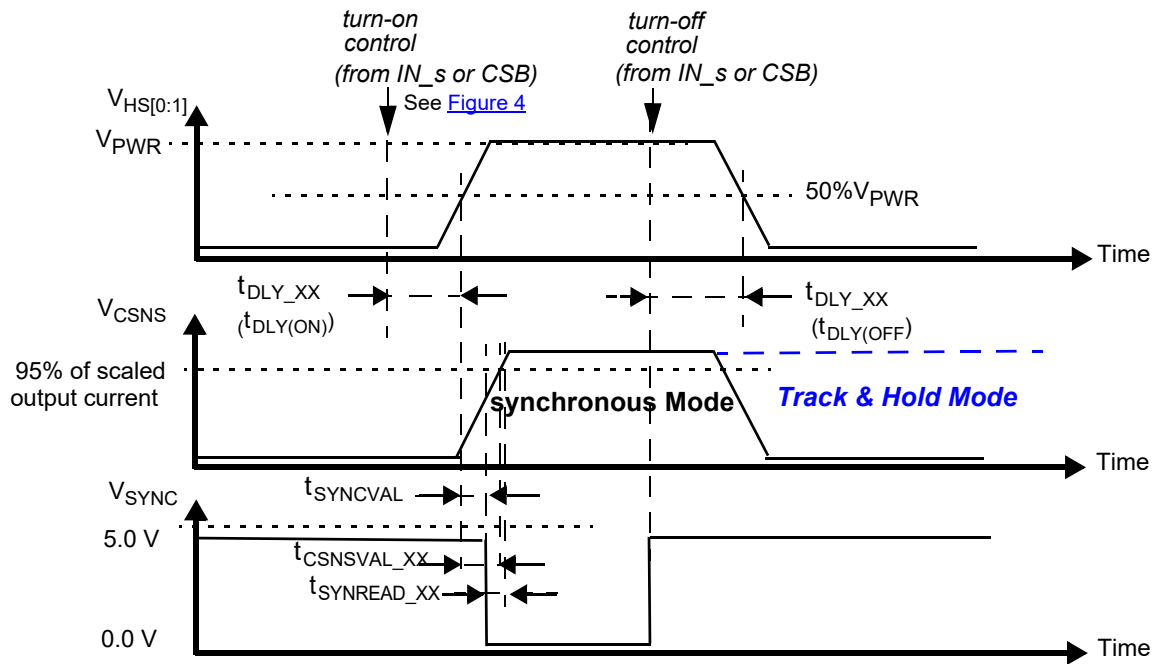

Figure 9. Synchronous and Track & Hold current sensing modes: associated delay and settling time
29. Time required to switch off the channel after detection of overtemperature (OT), overcurrent (OC), SC or UV error (time measured between start of the negative edge on the FSB pin and the falling edge on the output voltage until $V(\text{HS}[0:1]) = 50\%$ of V_{PWR}).
30. Settling time ($= t_{CSNSVAL_XX}$), SYNC output signal delay ($= t_{SYNCVAL_XX}$) and Read-out delay ($= t_{SYNREAD_XX}$) are defined for a stepped load current ($100\text{ mA} < I(\text{LOAD}) < I_{OCLX_A}$ FOR $\text{CSNS_RATIO_S} = 1$, AND $300\text{ mA} < I(\text{LOAD}) < I_{OCLX_A_0}$ FOR $\text{CSNS_RATIO_S} = 0$). (see Figure 9 and Output current monitoring \(CSNS\))
The CS pin allows independent current monitoring of channel 0 or channel 1 up to the steady state overcurrent threshold. It can also be used to sense the device temperature. The different functions are selected by setting bits CSNS1_en and CSNS0_en to the appropriate value (Table 23). When the CSNS pin is sensed during switch-off in the (optional) Track & Hold mode (see Figure 9), it outputs the scaled value of the load current as it was just before turn-Off. When several devices share the same pull-down resistor, the CSNS pins of devices the current of which is not monitored must be tri-stated. This is accomplished by setting CSNS0_en = 0 and CSNS1_en = 0 in the GCR register (Table 10). Settling time ($t_{CSNSVAL_XX}$) is defined as the time between the instant at the middle of the output voltage's rising edge ($HS[0:1] = 50\%$ of V_{PWR}), and the instant at which the voltage on the CSNS-pin has settled to $\pm 5.0\%$ of its final value. Anytime an overcurrent window is active, the CSNS pin is disabled (see Overcurrent detection on resistive and inductive loads). The current and temperature sensing functions are unavailable in Fail-safe mode and in Normal mode when operating without the V_{DD} supply voltage. In order to generate a voltage output, a pull-down resistor is required ($R(CSNS)=1.0$ k Ω typ. and $470 < R(CSNS) < 10$ k). When the current sense resistor connected to the CSNS pin is disconnected, the CSNS voltage is clamped to $V_{CL(CSNS)}$. The CSNS pin can source currents up to about 5.6 mA.
To synchronize current sensing with an external process, the SYNC signal can be connected to a digital input of an external MCU. SYNC is asserted logic low when the current sense signal is accurate and ready to be read. The current sense signal on the CSNS pin has the specified accuracy $t_{SYNCREAD_XX}$ seconds after the falling edge on the SYNC pin (Figure 9) and remains valid until a rising edge is generated. The rising edge that is generated by the SYNC pin at the turn-OFF instant (internal or external) may also be used to implement synchronization with the external MCU. Parameter $t_{SYNCVAL_XX}$ is defined as the time between the instant at the middle of the output-voltage rising edge ($HS[0:1] = 50\%$ of V_{PWR}), and the instant at which the voltage on the SYNC-pin drops below 0.4 V (V_{SOL}). The SYNC pins of different devices can be connected together to save μ -controller input channels. However, in this configuration, the CSNS function of only one device should be active at a time. Otherwise, the MCU does not determine the origin of the SYNC signal. The SYNC pin is open drain and requires an external pull-up resistor to VDD.